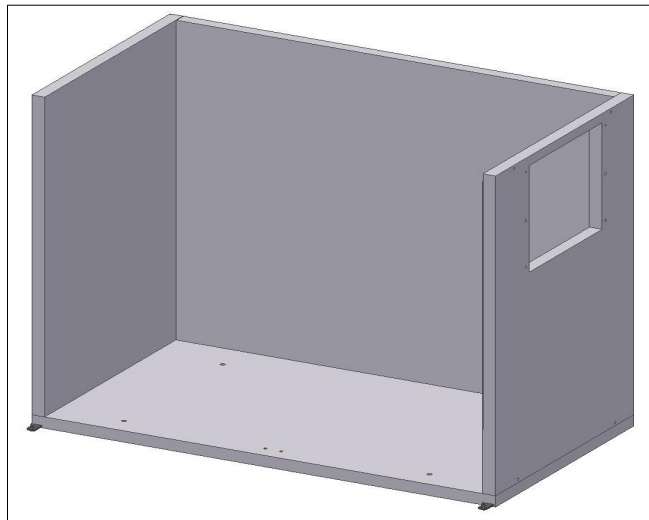

Fig. 5
- Fix the **right-side panel** to the panel of the bottom and fasten only the bottom (Fig.5);